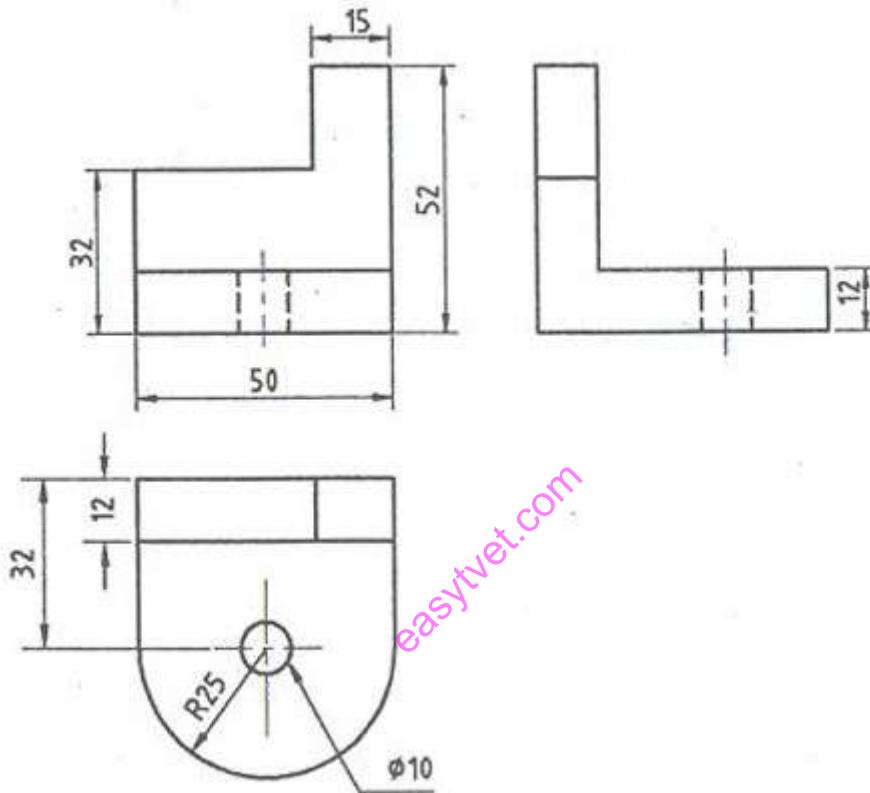

Fig 1.
11. Figure 1 shows orthographic views of a machine block in first angle (1st angle) projection. Draw the full size of the block in isometric projection. Insert dimensions.